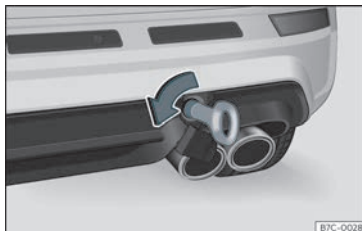

Fig. 44 On the right side of the rear bumper: tow-line anchorage in position.
- Screw the towing eye in the housing by turning it to the maximum **anticlockwise** >>> **Fig. 44** >>> ⓘ. Use a suitable object that can completely and securely tighten the towing eye in its housing.